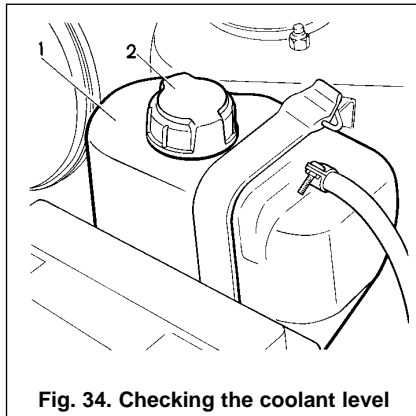

Fig. 34. Checking the coolant level
Coolant level should be 25-30 mm above the «MIN» mark on the transparent body of expansion tank 1 (Fig.34). Check the coolant level or open the expansion tank cap (2) only when the engine is cold. After refill, tighten the expansion tank cap firmly, since when the engine is running and warmed-up, the expansion tank is under pressure.